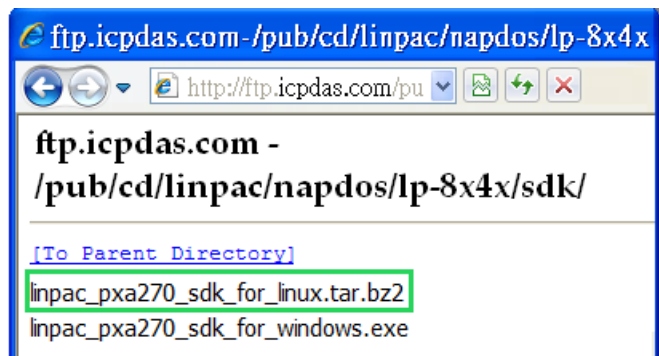

Figure 1.3.1-2.
3. Download SDK in '/' (the **root directory**), and try the following command to decompress file. (refer to Figure 1.3.1-3)